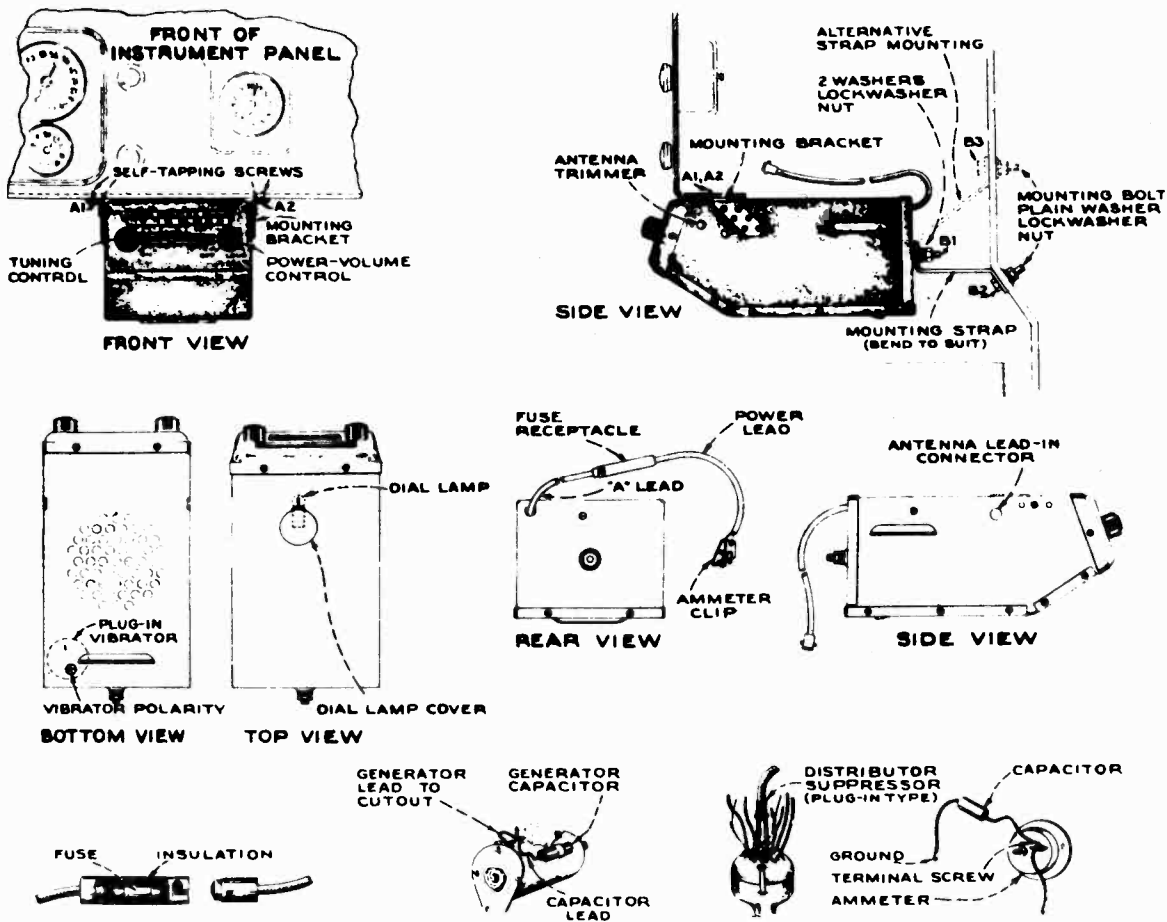

Figure 1
This radio contains a vibrator which may require change of position to accommodate it to the polarity of the grounded terminal of the car storage battery. It is installed at the factory for use on automobiles with the positive (+) terminal of the battery grounded to the frame of the car, and a "+" shows in the "vibrator polarity" hole in the bottom of the receiver. See Figure 1, Bottom view. If the negative (-) terminal of the battery is grounded to the frame of the car, as on most General Motors' automobiles, remove the bottom cover from the receiver, pull out the plug-in vibrator (see Figure 1), turn it a half revolution, and replace in socket. When the bottom cover is replaced on the receiver, the "-" sign will show through the "vibrator polarity" hole.
3. Hold the receiver in place again, mark for drilling of instrument panel flange, and drill the two holes (A1 and A2, Figure 1) with preferably a No. 34 drill. THESE HOLES MUST NOT BE TOO LARGE AS THEY SERVE TO HOLD THE RECEIVER BY MEANS OF THE TWO SELF-TAPPING SCREWS.
4. Attach the receiver securely to the instrument panel by means of two self-tapping screws - A1 and A2, Figure 1.
5. Mark the position on the bulkhead and prepare the hole for the mounting strap. This may be an existing hole, or a new hole may have to be drilled - B2 or B3, Figure 1, Side View.
6. Bend the mounting strap to shape so that it fits over bolt protruding from rear of receiver (B1 - Figure 1) and matches up with the hole in the bulkhead (B2 or B3).
First attach the antenna lead-in to the receiver. Antenna lead-ins are equipped with a plug which fits into the socket on the left-hand side of the receiver, located as shown in the lower one of the two "Side Views" - Figure 1. Assemble the ammeter lead. The fuse receptacle is of the single spring terminal bayonet type consisting of a male and female section. Insert the sleeve in the socket and the fuse in the sleeve as shown in the "Fuse Socket Assembly" Figure 1, and then attach to the plug on the single wire lead from the back of the receiver. The other end of the Power lead terminates in a spring clip for connection to one of the ammeter binding posts. The correct terminal is decided after the radio receiver is in operation, by the ammeter registering current when the receiver is turned on.
If the dial illumination falls, the dial lamp may be replaced by loosening the self-tapping mounting screws holding the mounting brackets to the instrument panel, allowing the receiver to hang by the back mounting strap and giving access to the top of the receiver. Pry off the dial light cap shown in Figure 1, Top View, insert thumb and finger in hole and slide the dial lamp assembly towards the back of the receiver. The lamp, socket and clip are freed and may be lifted out of the hole to the length of the leads. Remove the lamp from the bayonet socket, replace with a new one and assemble back in place by means of the clip. Replace the dial light cap in its correct position so that the flattened lugs are over the lamp socket and mount receiver back in position on instrument panel.
The two most important points at which precaution should be taken to reduce interference is at the distributor and at the generator. A distributor suppressor is furnished with the equipment, which should be plugged into the center terminal of the distributor and the ignition wire in turn plugged into the end of the suppressor as illustrated in Figure 1.
The second point at which ignition interference should be suppressed is at the generator cut out. Various manufacturers place the cut out in different locations. Some mount it upon the generator while others locate it on the bulkhead. The bypass condenser should be mounted with the case making good electrical contact with the metal car frame while the flexible lead is attached to the same terminal of the cut out as the lead from the generator. See Figure 1. Most cut outs have four terminals which are marked. The Generator terminal is marked "GEN."
A third point, often of considerable importance is the ammeter. The ammeter bypass capacitor (the one without metal case), should be connected by one lead to the screw on the ammeter clip and by the other lead to any convenient grounded point on instrument panel or dash board. See Figure 1.